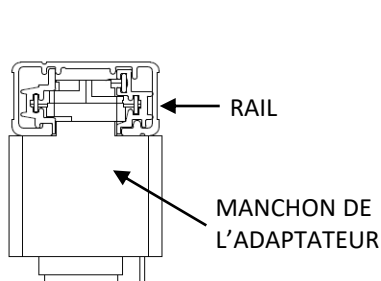

Fig. 5
3. Rotate ADAPTER (2) CONTACTS in direction of GROOVE until ADAPTER SLEEVE snaps into track. FIG. 5